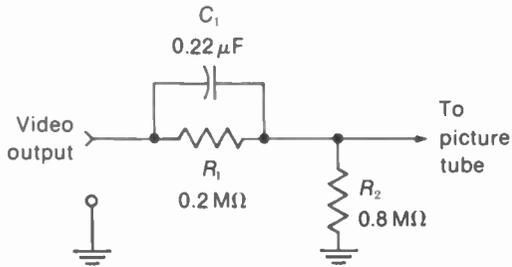

FIGURE 14-5 PARTIAL DC COUPLING.  $R_2$  HAS 80 PERCENT OF THE DC COMPONENT, WHILE  $C_1$  COUPLES ALL THE AC COMPONENT.
**Partial dc coupling.** See Fig. 14-5.  $C_1$  is used to couple all the ac video signal.  $R_1$  and  $R_2$  form a voltage divider for the dc component. The dc voltage across  $R_2$  is the dc component for the picture tube. In this example, the voltage across  $R_2$  is  $\frac{8}{10}$ , or 80 percent, of the total dc voltage. Typical values are 50 to 80 percent of the dc component for the picture tube, with partial dc coupling.
9. In Fig. 14-5, if  $R_1$  were increased to  $0.8\text{ M}\Omega$  to equal  $R_2$ , the dc coupling would be 50 percent.